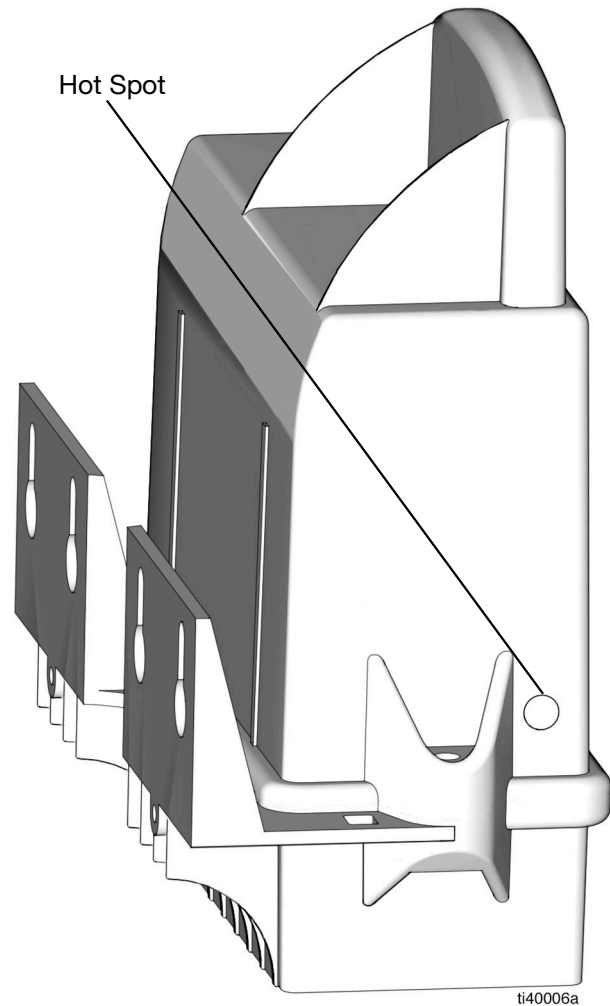

FIG. 1
1. Hold the magnet (supplied) to the Hot Spot on the side of the log device marked by a yellow sticker (FIG. 1).